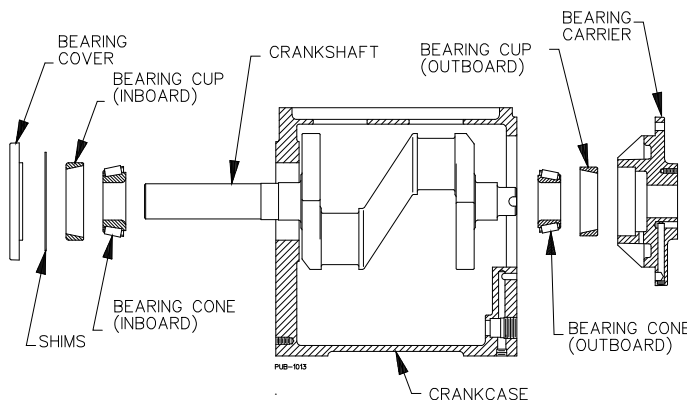

Figure 18 - Bearing Locations
- b. Note the proper orientation in Figure 18 and carefully press the inboard bearing cup into the crankcase until it is flush with the outer surface of the crankcase.